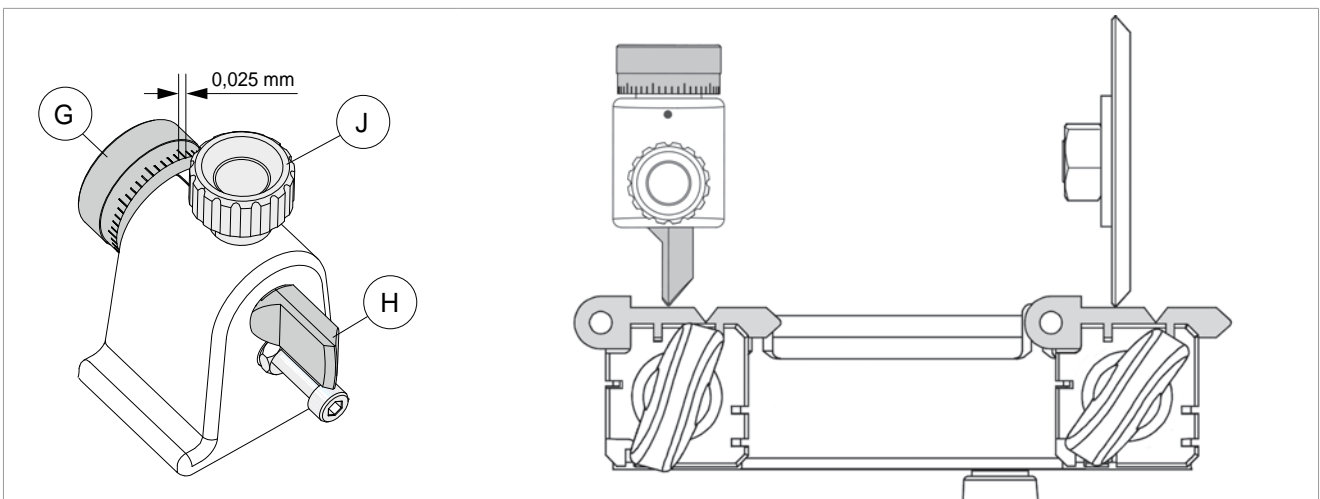
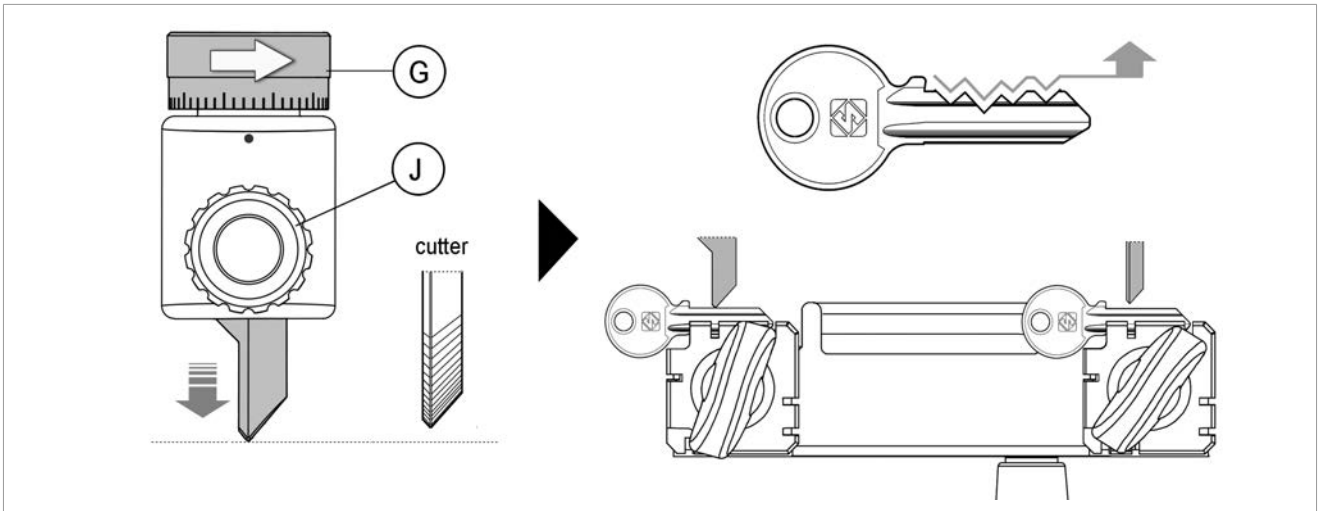

Fig. 18
Fig. 19
- 7) Move the keys into contact with the cutting tool and tracer point (Fig. 18).
- a) loosen the tracer point locking knob (J).
- b) turn the ring nut (G) clockwise to advance the tracer point (shallower cuts) (Fig. 19).
NOTE: each notch on the centesimal ring corresponds to 0,025 mm (.00098") (Fig. 18).